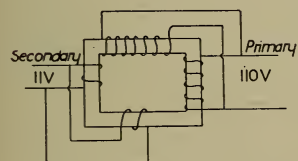

FIGURE 219.—110 VOLTS TRANSFORMED TO 11 VOLTS.
2. If the primaries are connected in parallel and the secondaries in parallel, the voltage will be  $\frac{1}{10} \times 110 = 11$ . (Figure 219.)